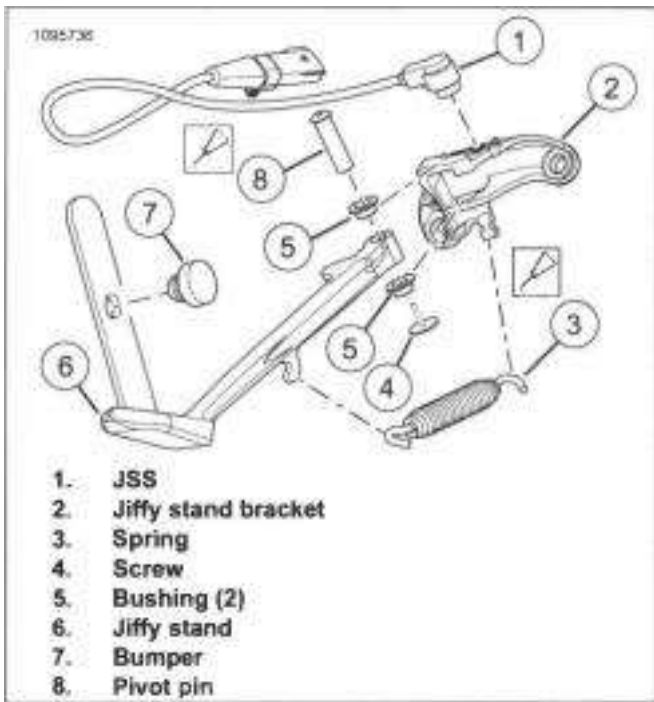

Figure 3-158. Jiffy Stand (Typical)
1. See Figure 3-158. Remove Jiffy Stand Sensor (JSS) (1), if equipped. See JIFFY STAND SENSOR (JSS) (Page 7-86).
2. Remove spring (3).
3. Remove screw (4).
4. Remove pivot pin (8).
5. Remove jiffy stand (6).
6. Remove bushings (5).
1. See Figure 3-158. Install jiffy stand bumper (7).
3. Install jiffy stand (6).
4. Apply anti-sieze lubricant to pivot pin (8).